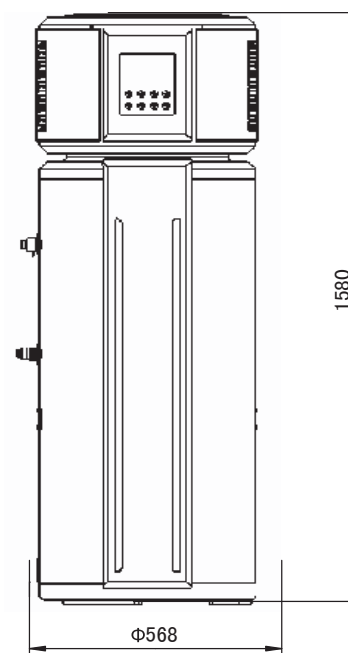
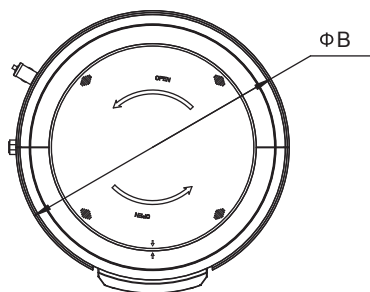

Fig.4.1
Fig.4.2
- Outline dimensional drawing(see Fig.4-1, Fig.4-2)